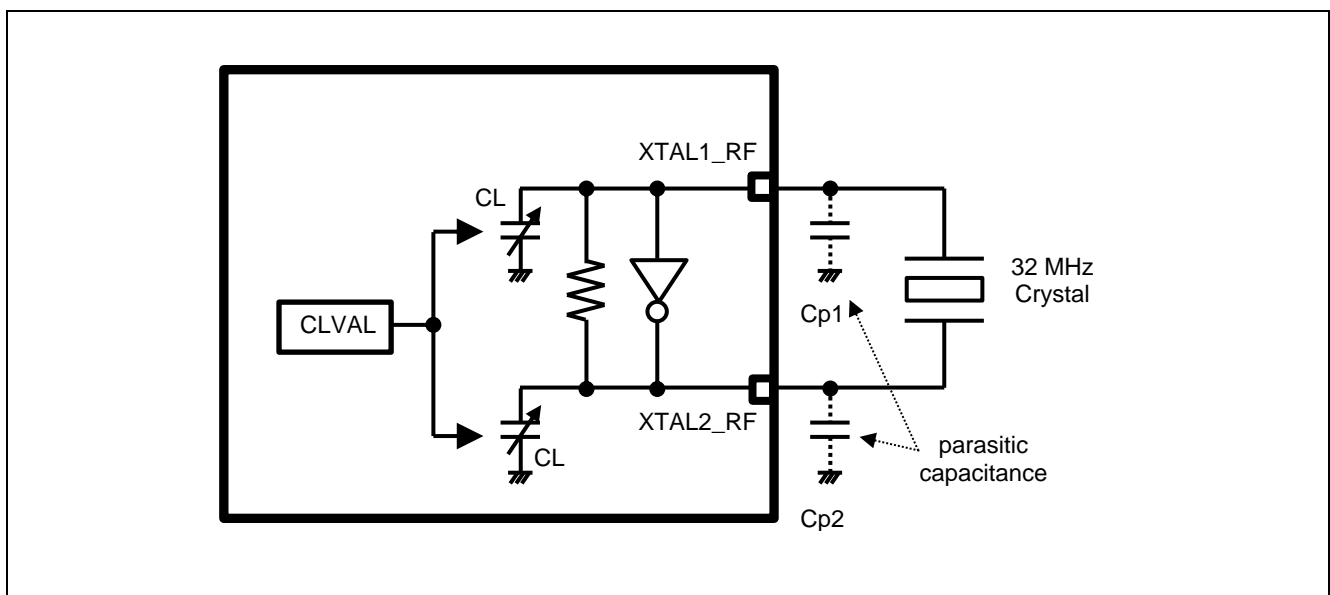

Figure 2-1. Circuit of Bluetooth dedicated clock oscillator.
Figure 2-1 shows circuit of Bluetooth dedicated clock oscillator. RE01B has two load capacitors (CL) internally for tuning Bluetooth dedicated clock frequency. These internal capacitors are connected to terminals XTAL1_RF and XTAL2_RF respectively. The capacitance of CL can be adjusted in a range of 2-15 pF typically. The oscillation frequency error can be minimized with the appropriate capacitor setting (CLVAL).